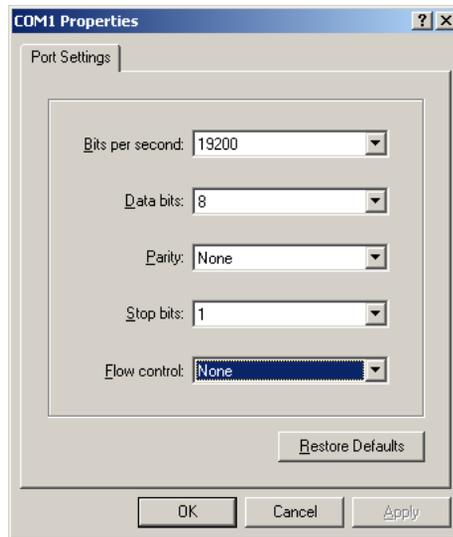

Figure 4: HyperTerminal COM1 Properties dialog box
Figure 4 is an example of the COM1 Properties dialog box.
- e. In the **COM1 Properties** dialog box, enter the following settings, also listed in Figure 4, and click **OK**.